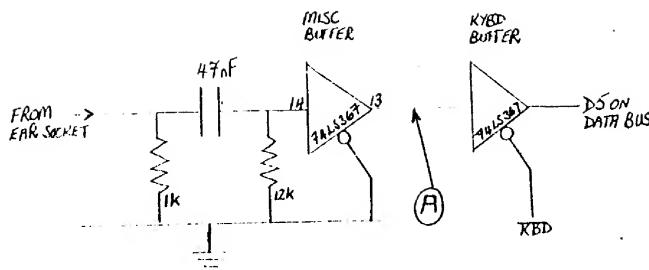
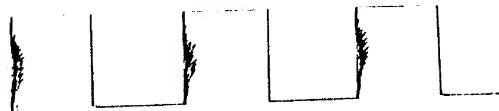

fig 1. TAPE LOAD CIRCUIT
fig 2. BAD SIGNAL AT POINT A.
The attached fig. 1 shows the Jupiter Ace keyboard matrix. In wiring up my own board I found that the computer would crash occasionally and produce some peculiar reactions unless the 5 10K pull-up resistors were added to the 74LS367 keyboard buffer. These are shown in the diagram. The 40 keys are connected in a 5 x 8 matrix which is decoded in the Ace to give the correct response.
Out came the 'scope yet again to find that the signal at point A of the loading circuit (shown in fig. 1) which should be a nice clean square-wave, looked like that shown in fig. 2, i.e. lots of noise on the leading edges of the square-wave. Changing the capacitor for another of the same value produced a slight improvement so I decided to experiment. Finally, fitting a .1uF polycarbonate capacitor produced two results:-
One feature of my latest game, ALIENS*, is the ability of the program to detect multiple key presses. Here's how it's done. As it says on page 154 of the Ace manual, each half-row of keys corresponds to a unique Z80 port address, with the outer-most key on each row corresponding to bit \emptyset of the data read in from that port. The assignment of keys to ports is fairly straightforward, except on the bottom row, where SYMBOL-SHIFT has been assigned to the port for the left-hand half-row, and the 'v' key has accordingly been moved right. Fig. 1 shows the logical layout of the keys with respect to their port addresses.
-Fig.1-
Fig.2 the listing.